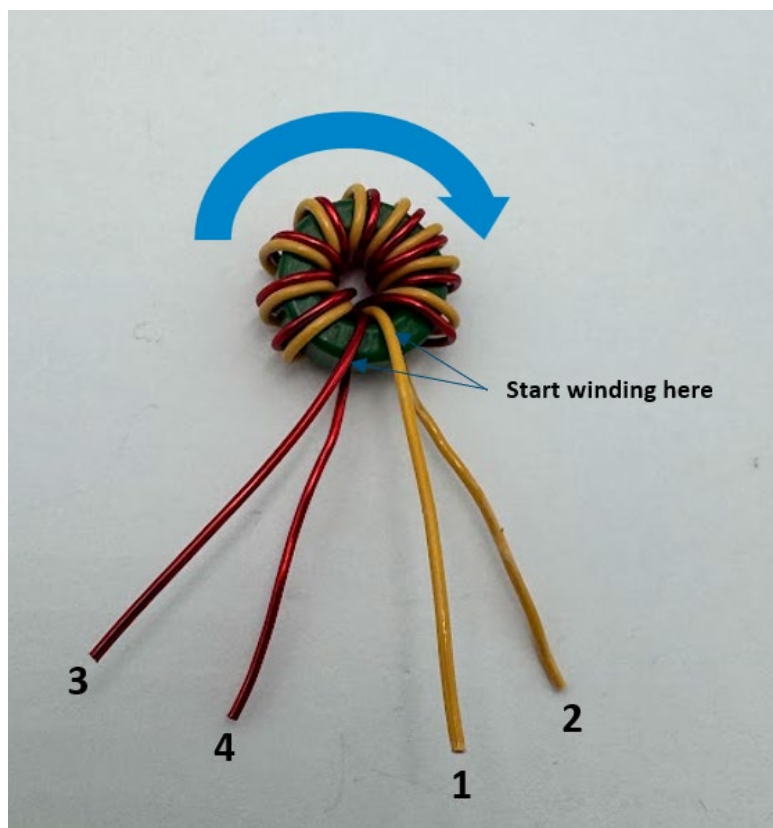

Figure 12 – Build Diagram.
Winding 1 – Starting from the left and proceeding clockwise, wind 9 turns of items 2 and 3 together in a bifilar configuration, as illustrated in Figure 12.